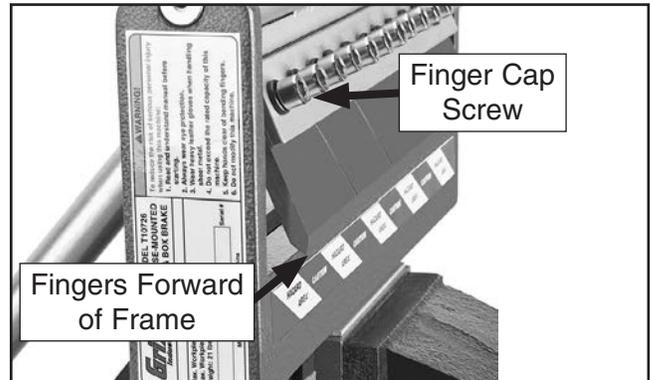

Figure 8. Fingers positioned forward of frame.
- From the rear of the brake, carefully push the fingers forward, as shown in **Figure 8**, then slowly lower the lever behind the brake. The fingers should clear the front of the frame as they are lowered.